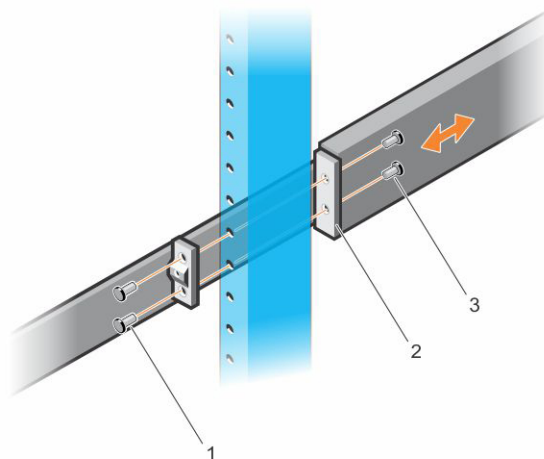

Figure 16. Two-Post Center-Mount Configuration
1. Slide the plunger bracket rearward until it clicks into place and secure the bracket to the front post flange with two user-supplied screws. See item 1 in Figure 16.
2. Slide the back bracket towards the post and secure it to the post flange with two user-supplied screws. See items 2 and 3.